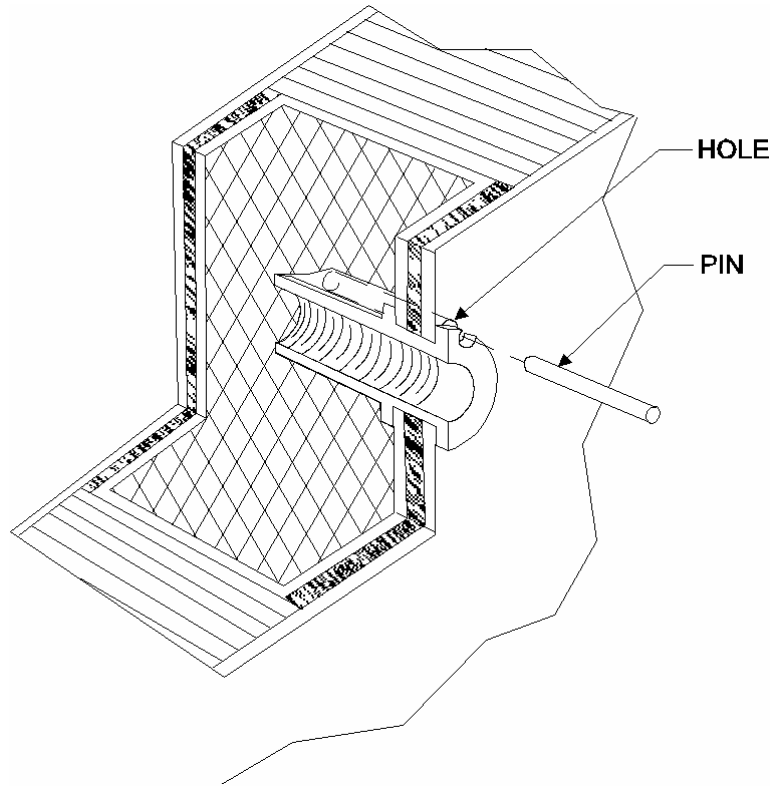

Figure 3. Spinning Rivnut Repair.
- b. Install a headless straight pin. (Refer to Figure 3).